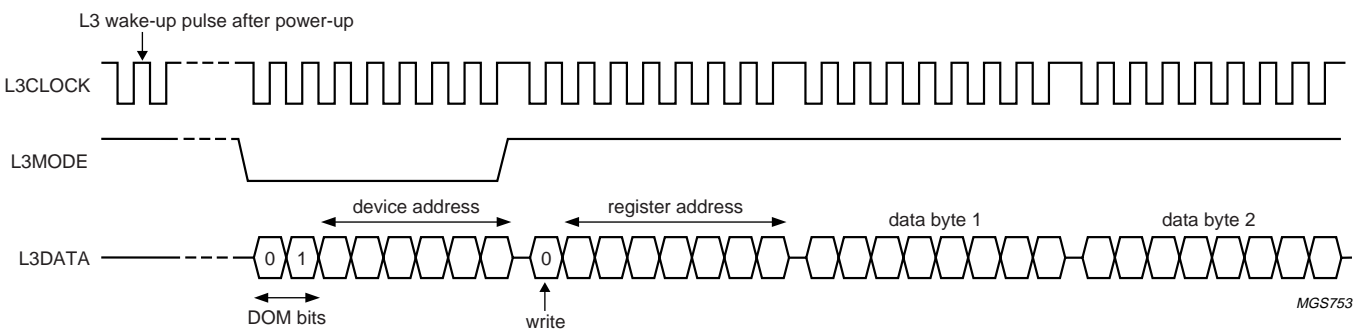

Fig.5 Data write mode (for L3-bus version 2).
The address mode is used to select a device for a subsequent data transfer. The address mode is characterized by L3MODE being LOW and a burst of 8 pulses on L3CLOCK, accompanied by 8 bits (see Fig.5). The data transfer mode is characterized by L3MODE being HIGH and is used to transfer one or more bytes representing a register address, instruction or data.
**Remark:** when the device is powered-up, at least one L3CLOCK pulse must be given to the L3-bus interface to wake-up the interface before starting sending to the device (see Fig.5). This is only needed once after the device is powered-up.
1. Addressing for write data: bit 0 is logic 0 indicating a write action to the destination register, followed by bits 1 to 7 indicating the register address (see Fig.5)
The data write mode is explained in the signal diagram of Fig.5. For writing data to a device, 4 bytes must be sent (see Table 6):